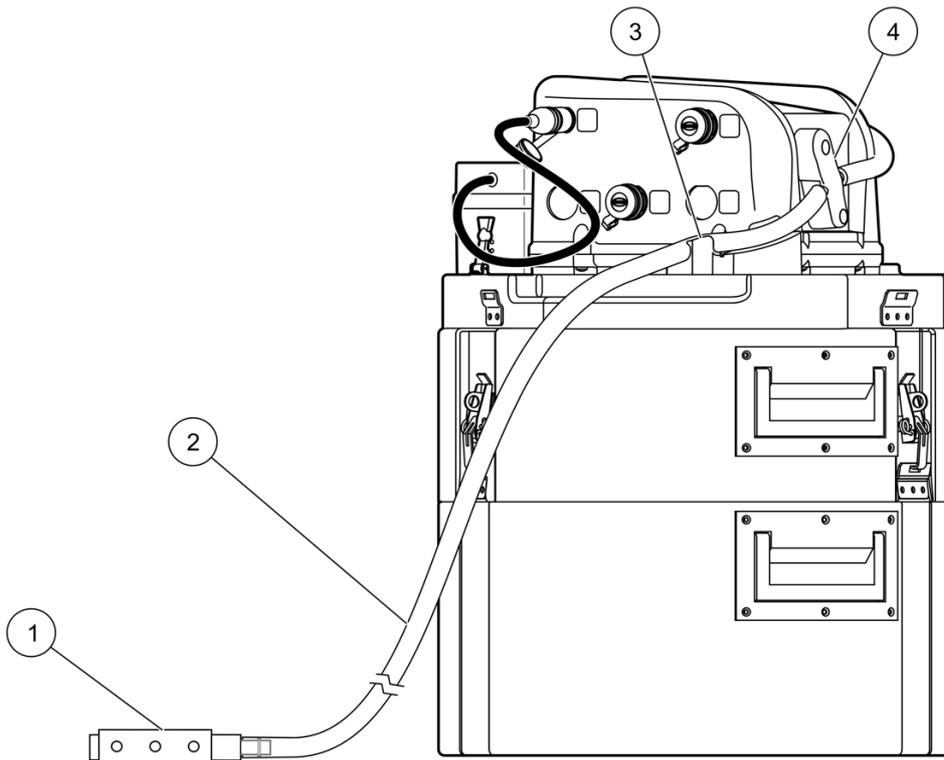

Figure 13 Intake tubing installation
2. Press the tubing into the strain relief (Figure 13).